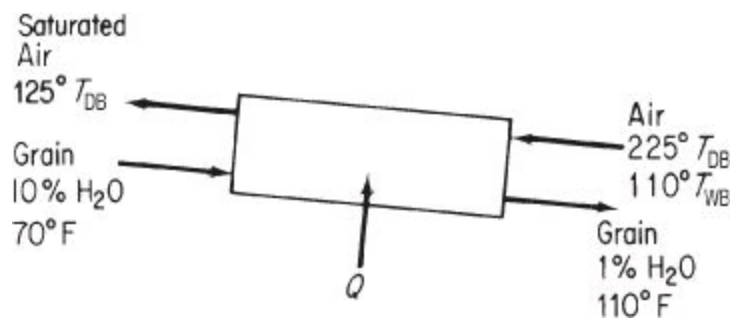

Figure P11.3.1
****11.3.1.** A rotary dryer operating at atmospheric pressure dries 10 tons/day of wet grain at 70°F, from a moisture content of 10% to 1% moisture. The airflow is countercurrent to the flow of grain, enters at 225°F dry-bulb and 110°F wet-bulb temperature, and leaves at 125°F dry-bulb. See Figure P11.3.1. Determine (a) the humidity of the entering and leaving air if the latter is saturated; (b) the water removal in pounds per hour; (c) the daily product output in pounds per day; (d) the heat input to the dryer.